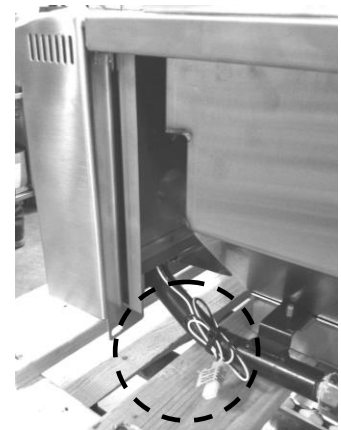

Fig. 3
- A side burner plug to provide electrical power for side burner is located at the right rear of the front panel. (Fig. 3)
The warming rack may be used to keep food warm and avoid overcooking the food. To install the warming rack, use the hook to latch on at the rear hood panel as shown below (Fig. 3)